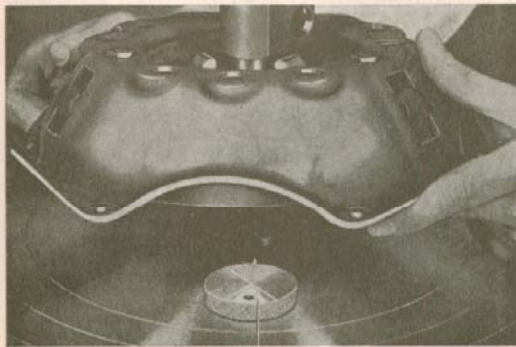

Fig. 2-6. Placing clutch in fixture, I
2. Place the packing blocks No. 0 on fixture SVO 2322, see Fig. 2-6. Place on the clutch, the 3-point supports, the arms and the three thrust rods, see Fig. 2-7. Place on the wrench and press down the clutch until the housing contacts the bottom plate.